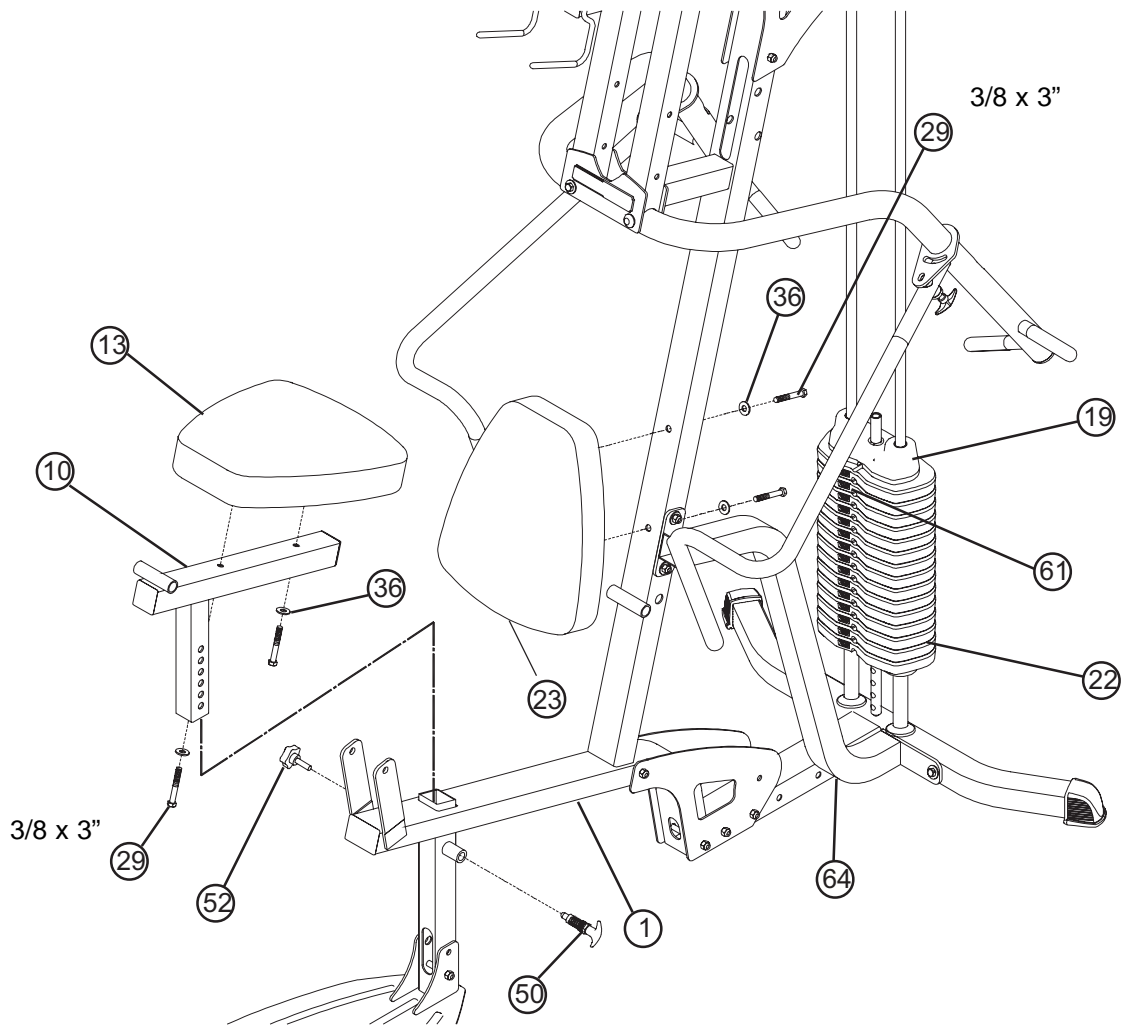

FIGURE 10
- Apply the WEIGHT STACK LABELS (61) to the WEIGHT PLATES (22) and HEAD PLATE (19) as shown in FIGURE 10. Begin with number one at the HEAD PLATE (19) with the larger numbers in consecutive order towards the bottom of the weight stack.
- Securely assemble one SEAT PAD (13) to the SEAT ADJUST (10) using two 3/8 X 3" SILVER BOLTS (29) and two 3/8" WASHERS (36) as shown.
- Securely assemble one BACK PAD (23) to the FRAME (1) using two 3/8 X 3" SILVER BOLTS (29) and two 3/8" WASHERS (36) as shown. The top connection of the FRAME BRACE (64) may have to be loosened and then re-tightened after the BACK PAD (23) is tightened.
- Gently insert the SEAT ADJUST (10) into the tube located on the FRAME (1).
- Securely tighten the T-HANDLE SPRING PIN (50) to the FRAME (1) and hand tighten the 3/8" STAR KNOB (52).